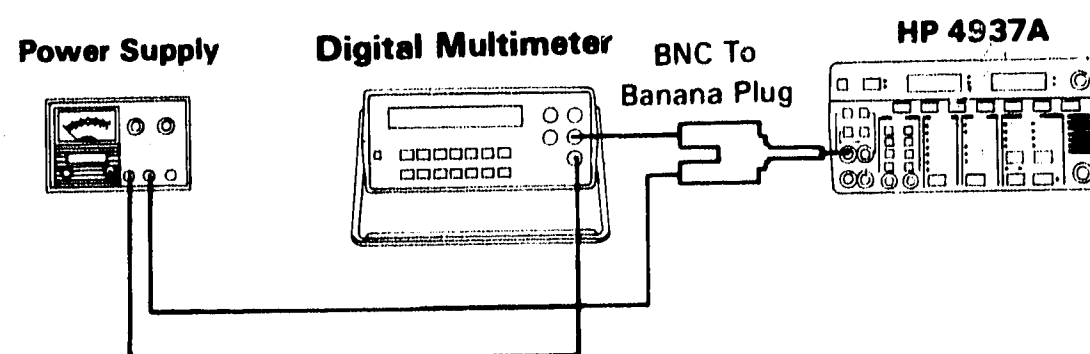

Figure 4-14. *Hold Current Test*
1. Connect equipment as shown in figure 4-14.